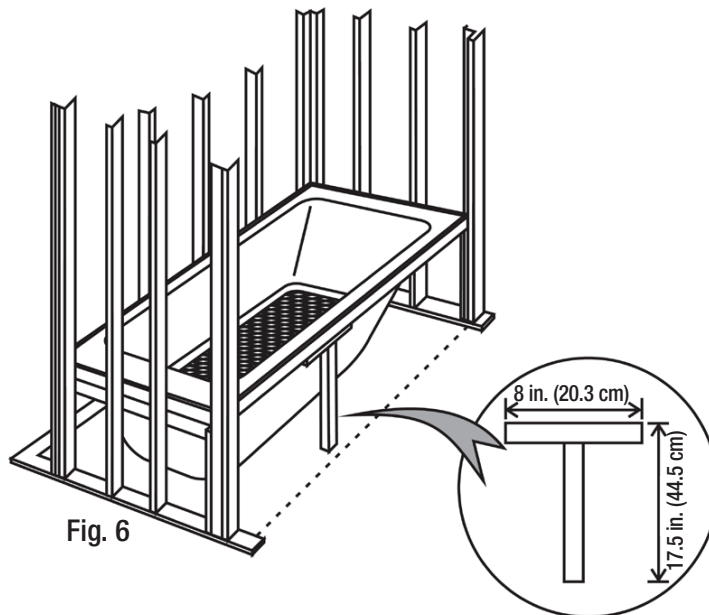

Fig. 6
10. If you are using the optional skirt, disregard this step and follow skirt installation instructions. Reinforce the front edge, using 2 in. x 2 in. x 8 in. (5.08 x 5.08 x 20.32 cm) and 2 in. x 2 in. x 16 in. (5.08 x 5.08 x 40.5 cm) pieces of wood assembled into a "T" as per Fig. 6. Make sure that the top of the "T" makes light contact with the inside of the tub deck (flat area). Test and shim if necessary.